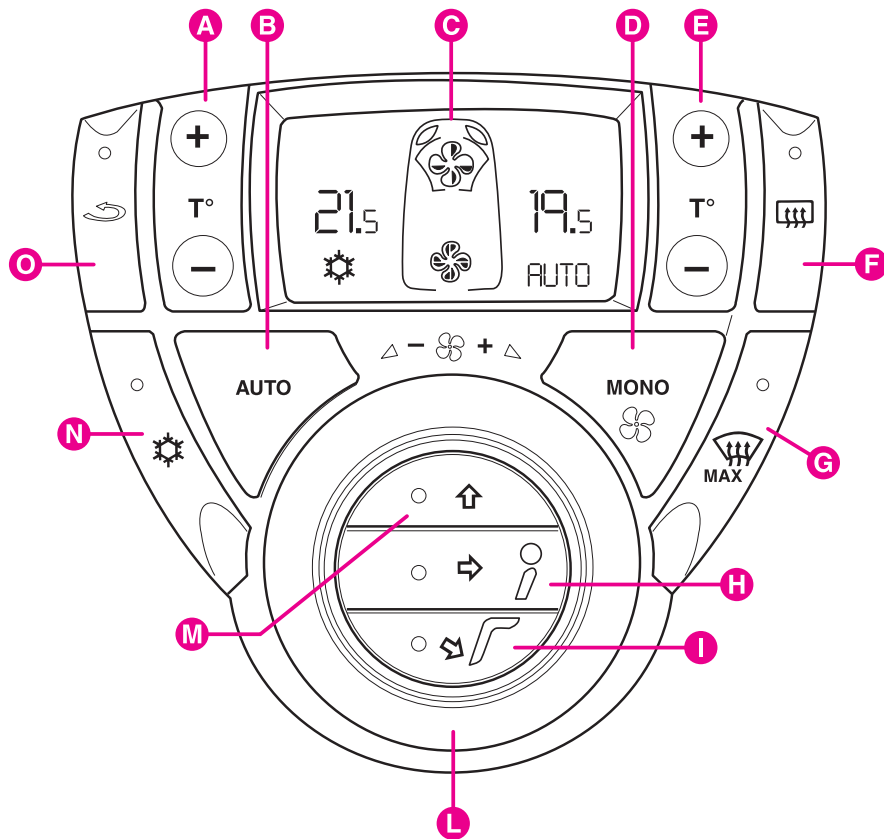

fig. 88
Legend fig. 88
• **driver's and passenger's side temperature alignment (MONO) fig. 88 (for versions without additional fans):** this is possible by pressing button **D**, so a single temperature is reached inside the passenger compartment.